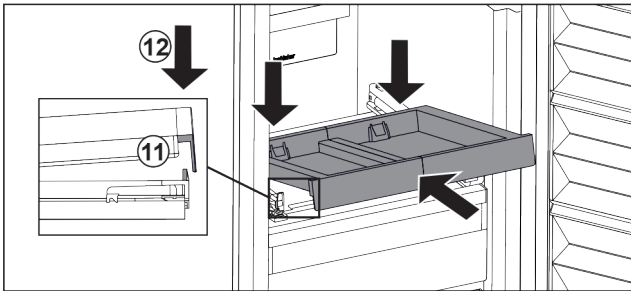

Fig. 101
- ▶ Slide it in at an angle. Make sure that the stop is behind the lug on both sides. *Fig. 101 (11)*
- ▶ Lower the pull-out board at the front. *Fig. 101 (12)*